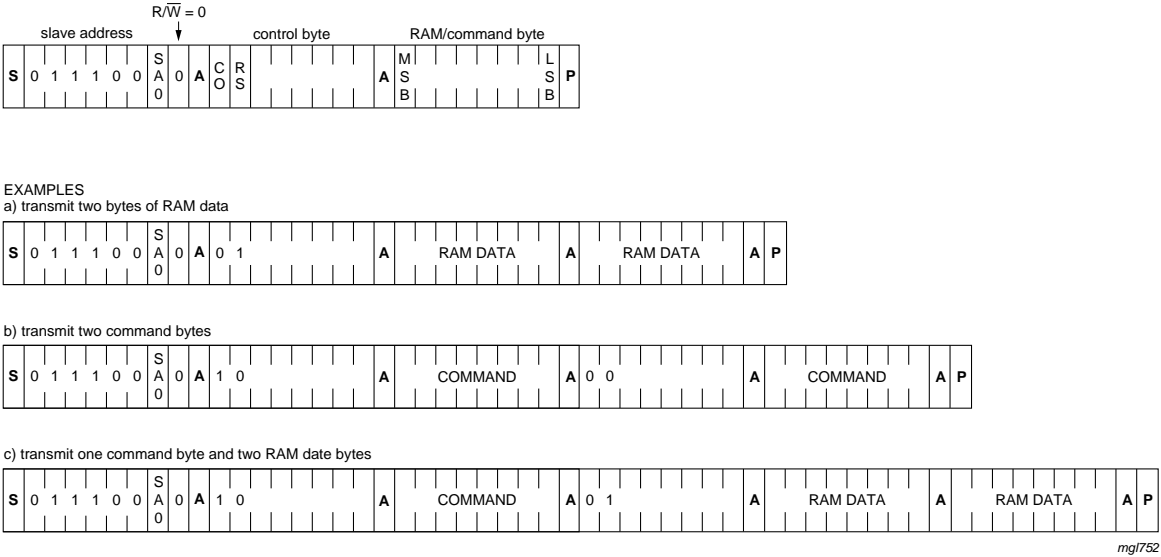

Fig 21. I2C-bus protocol
The I2C-bus protocol is shown in Figure 21. The sequence is initiated with a START condition (S) from the I2C-bus master which is followed by one of two possible PCA85132 slave addresses available. All PCA85132 with the corresponding SA0 level acknowledge in parallel to the slave address, but all PCA85132 with the alternative SA0 level ignore the whole I2C-bus transfer.